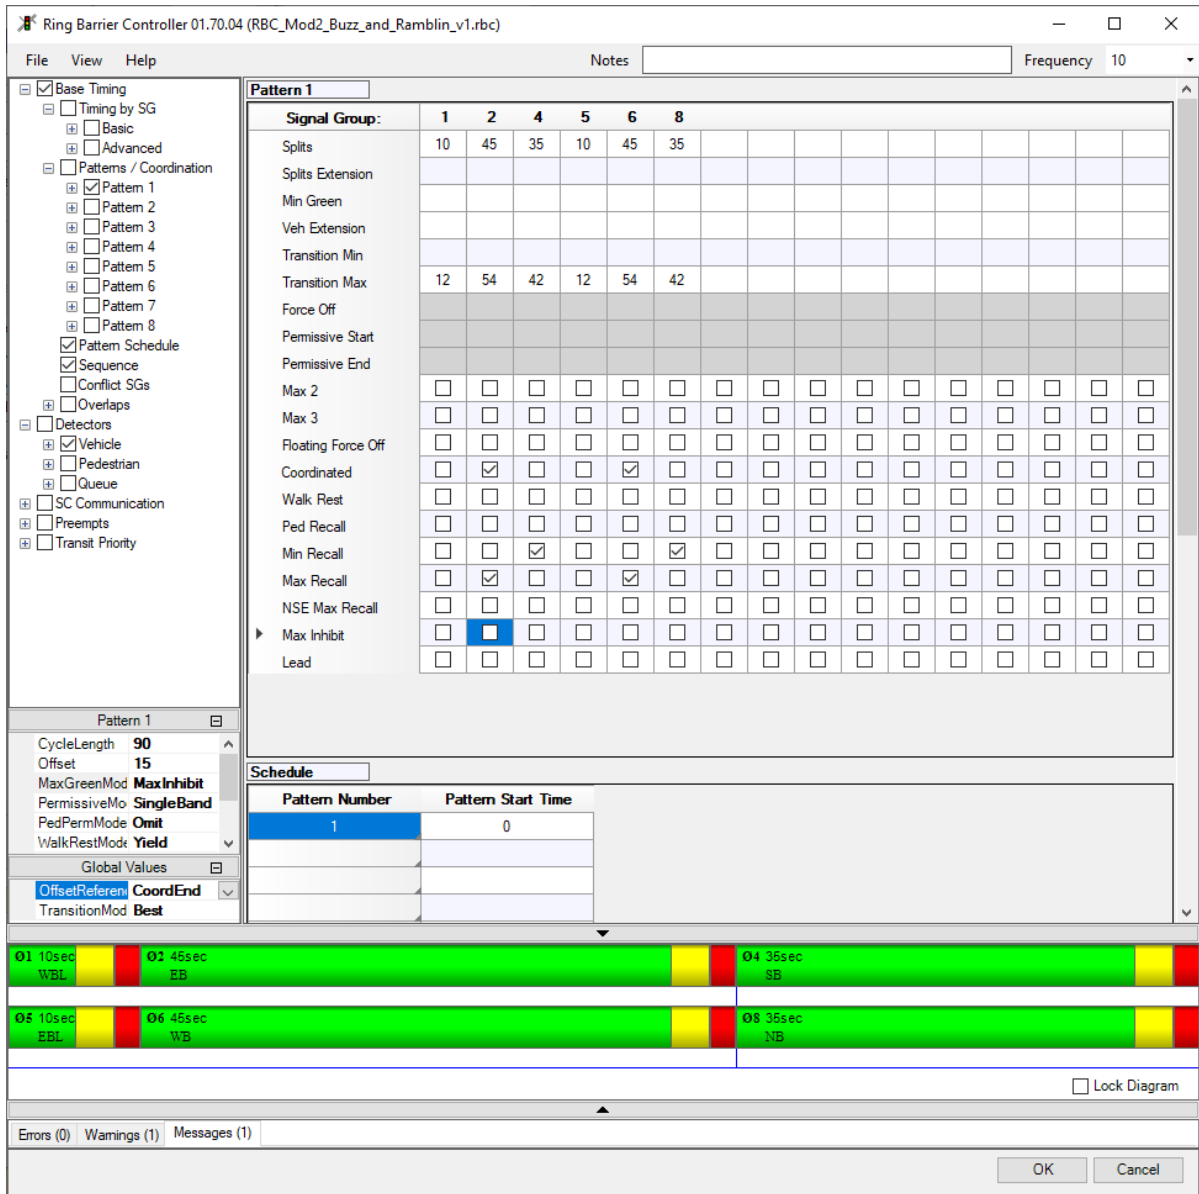

Figure 20: Buzz Blvd and Ramblin Dr. Coordination Settings
- step viii. Complete steps i to vii for the Buzz Blvd and Ramblin St. as in Figure 20. You will notice the offset is now 15 seconds